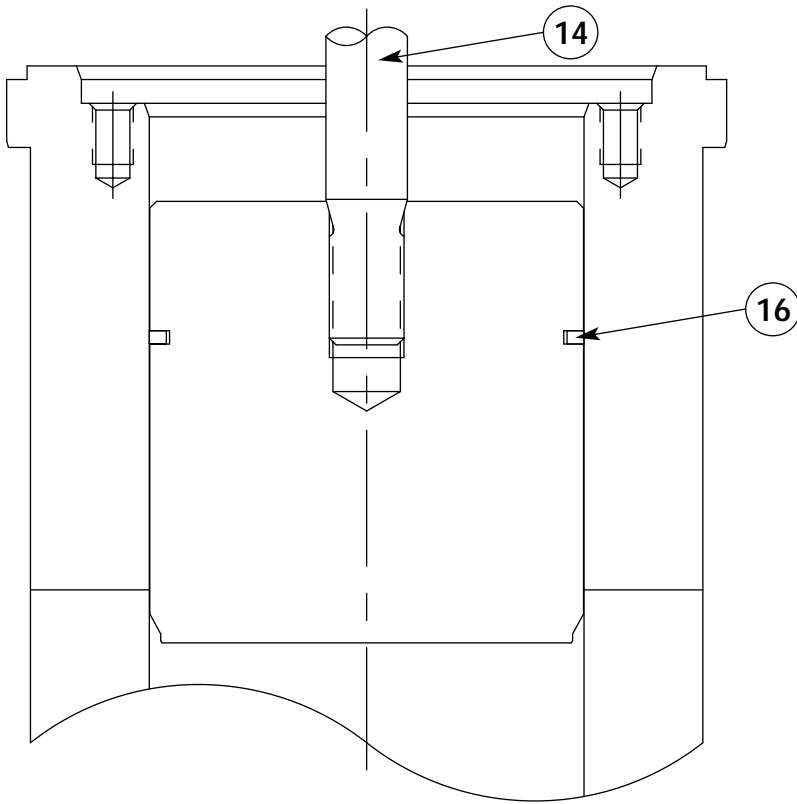

FIG. 4E
- 4e. UNBALANCED VALVE PLUG (See Fig. 4E) Install piston ring, carefully expanding ring over the main plug and into ring groove.